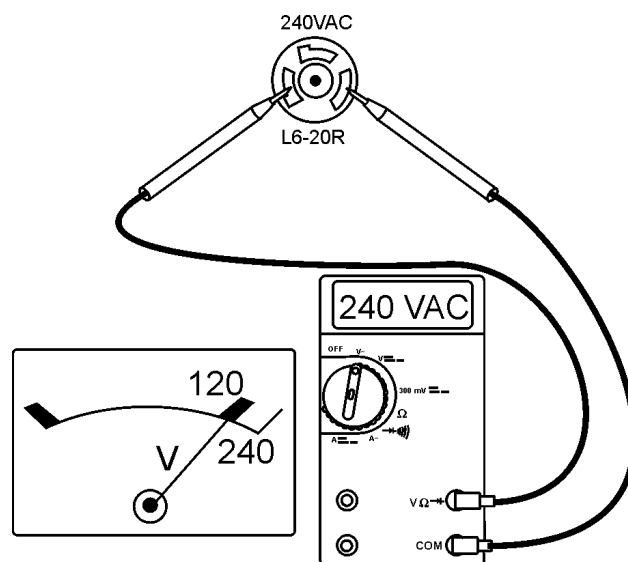

Figure 22. 240V Receptacle
- Read voltmeter on front panel of generator (Figure 22) and verify that 240 VAC is displayed. Using an external voltmeter as shown in Figure 22, verify that 240 VAC is present at the 240V twist-lock receptacle.